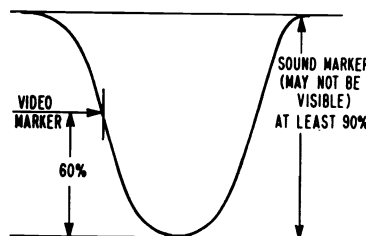

Fig. 6 IDEAL RESPONSE CURVE
5. Compare response curve obtained against ideal curve shown in figure 6.